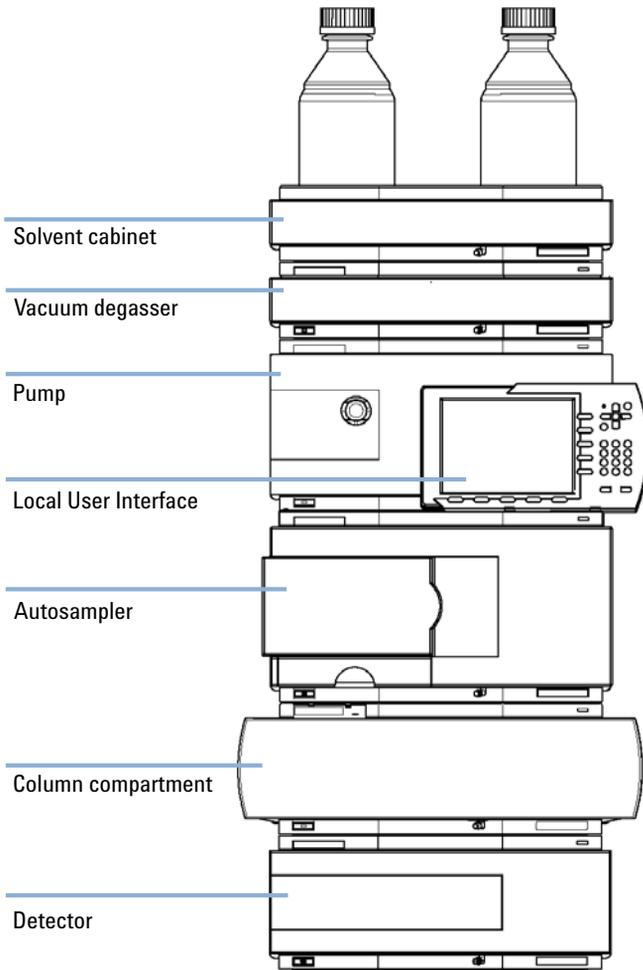
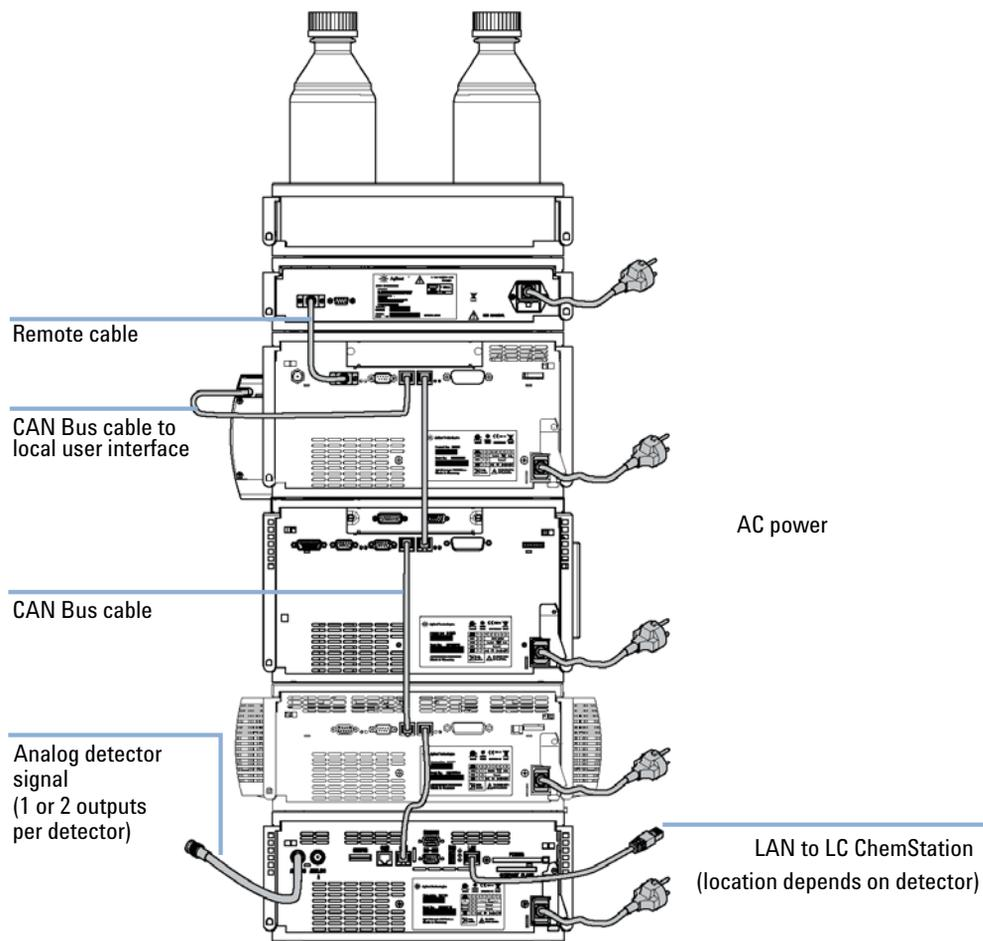

Figure 8 Recommended Stack Configuration for 1260 (Front View)
Figure 9 Recommended Stack Configuration for 1260 (Rear View)
Ensure optimum performance by installing the modules of the Agilent 1260 Infinity LC System in the following configuration (See Figure 8 on page 45 and Figure 9 on page 46). This configuration optimizes the flow path for minimum delay volume and minimizes the bench space required.
- 1 Place the individual modules in a stack configuration as shown in Figure 8 on page 45.
- 4 Connect the CAN cable to the CAN connector of the next module, see Figure 9 on page 46.
- 1 Place the vacuum degasser in the stack of modules as shown in Figure 8 on page 45.
- 4 Connect the APG cable to the APG remote connector of the pump, see Figure 9 on page 46.